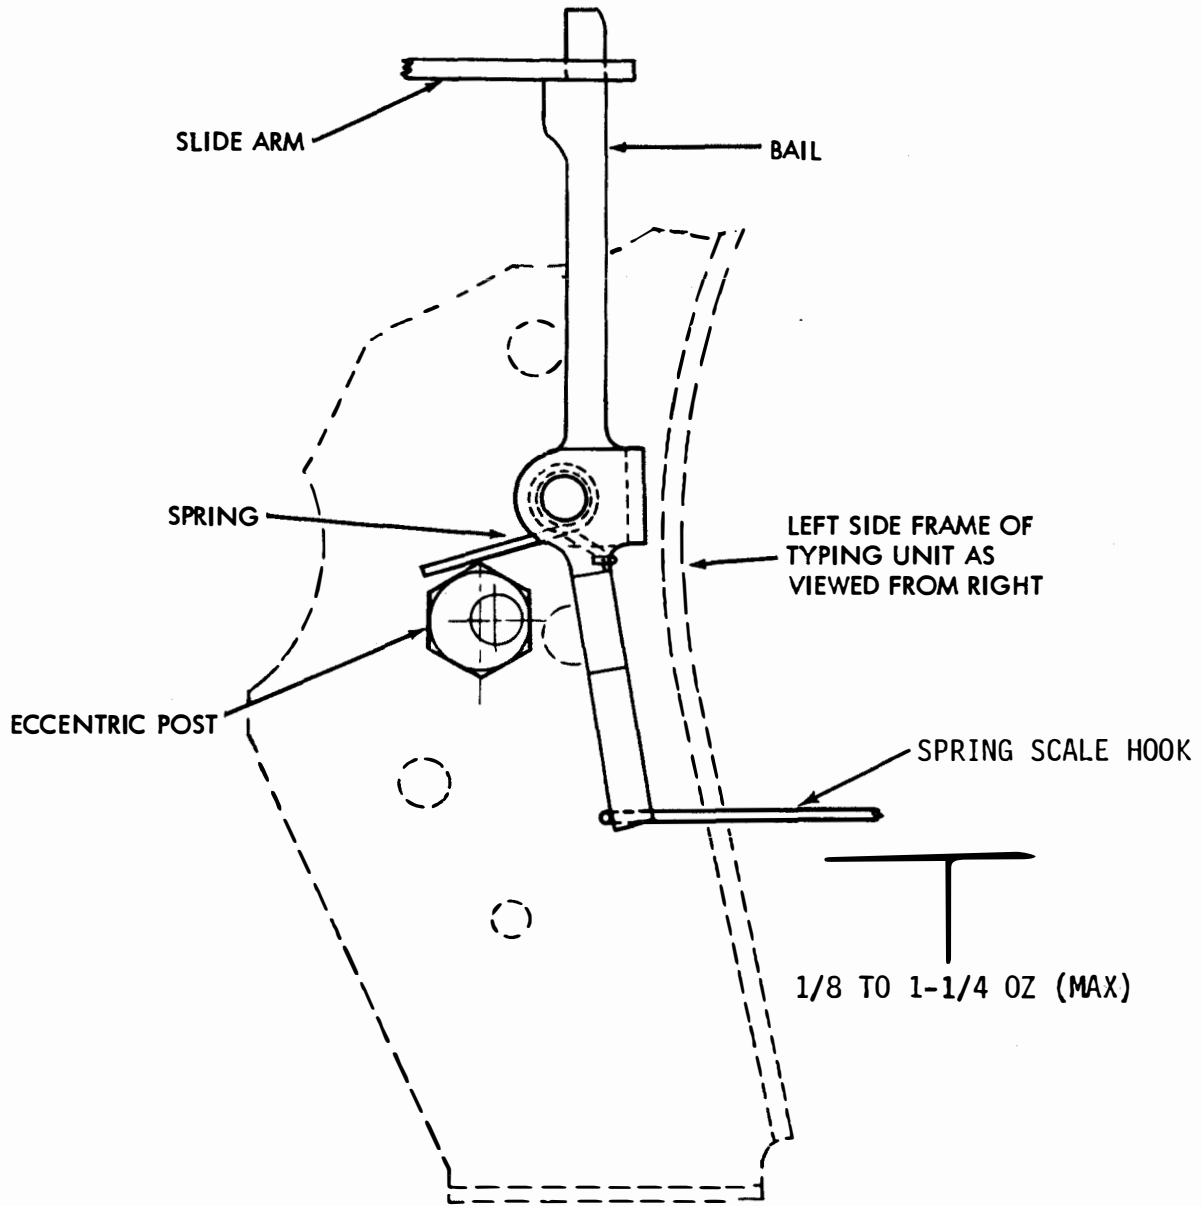

Figure 6-419. Form Feed-Out Torsion Spring
(1) Refer to Figure 6-419.
(2) Disengage line-feed clutch trip lever.
(3) Attach spring scale hook at lower end of bail.
(4) Force required to start bail moving should measure 1/8 to 1-1/4 ounces maximum.
(5) If requirement is not met, replace spring.